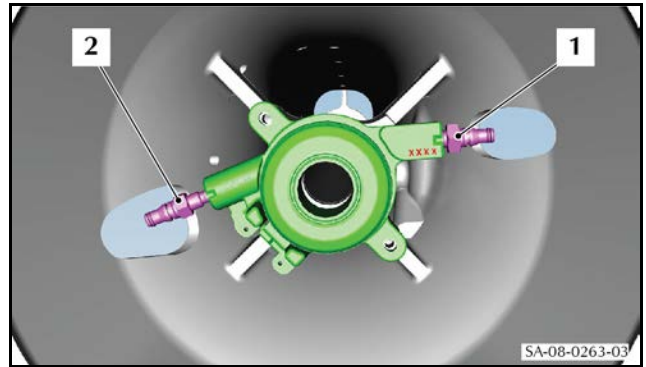

Figure 6
8. Torque the fluid pressure connector (1) to 17.5 Nm (refer to Figure 6).
9. Torque the fluid bleed connector (2) to 7.5 Nm.